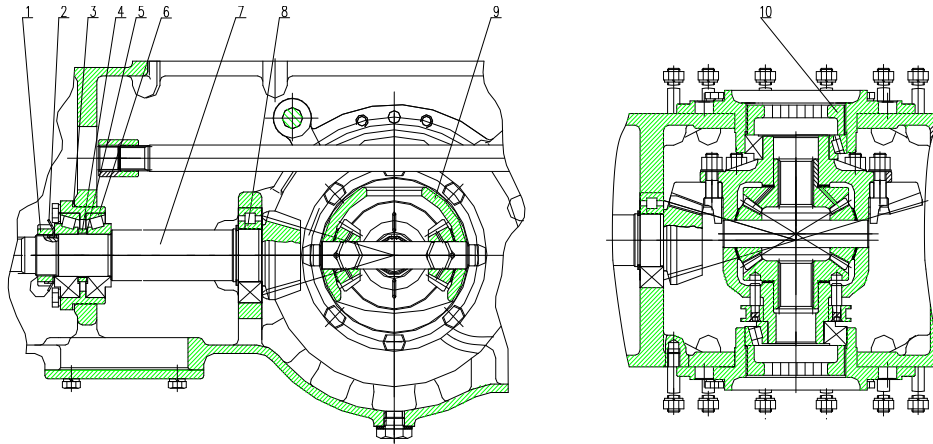

Figure 5-6 Structure of Rear Axle and Its Adjustment
Rear axle is composed of center drive, differential, differential lock and PTO shaft. (Figure 5-6)
- Adjustment of bevel pinion bearing (Figure 5-6)
Left/right bearing of differential are also pretightened. During using, axial clearance may occur in the large conical gear and pretightening force may reduce due to worn bearing; thus, you should check it regularly (when every 3 class maintenance). When adjusting, tighten the left/right adjusting nuts (Figure 5-6), and keep the axial pressure of the bearing at about 350N.
- Engagement adjustment of central bevel gear (Figure 5-6)
- Check meshing mark. Smear the tooth surface of large conical gear with catsup thinly and evenly. When going forward, the concave of the bevel pinion suffers the force. Smear the catsup over tooth surface of the large conical gear; turn the gear, and you will get the meshing mark on the bevel pinion. The correct meshing mark shall be near the pitch cone in the middle of the tooth height and a little bit near the small end and at a distance of no less than (3 to 4)mm, whose length shall not be less than 60% of the tooth length and height not be less than 50% of tooth height. When adjusting, make the bevel pinion move axially and turn the adjusting nut, and make the large conical gear move axially to get the correct meshing mark by means of changing the thickness of the adjusting gasket. In order not to damage the pretightening of the differential bearing, the sum of the adjusted quantity of left/right adjusting nuts of the differential shall be zero. (Figure 5-6)。